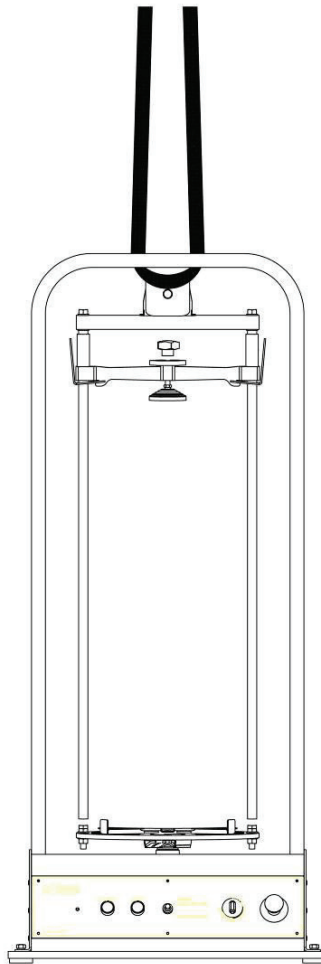

Fig. 3-2
4. If the equipment has been shipped disassembled, first carry out the assembling as described in chapter 3.4, afterward it will be possible to lift it by using the upper point of the external frame as lifting point with ropes (see Fig. 3-2).